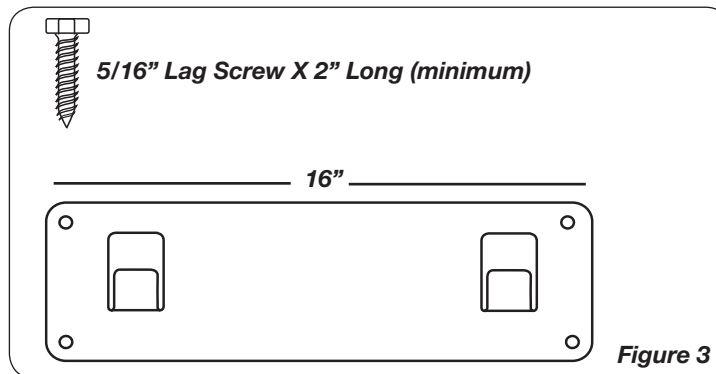

Figure 3
Your fan may be wall mounted using the new QuickMount® wall bracket supplied with your fan. (**Figures 3 and 4**)
3. Fasten wall bracket to mounting surface using 4 appropriately sized fasteners. Drill pilot holes as necessary. (**Figure 3**).